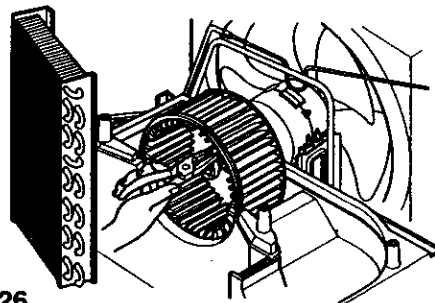

Figure 26
3. Remove the clamp which secures the blower with a hand plier. (See Figure 26)